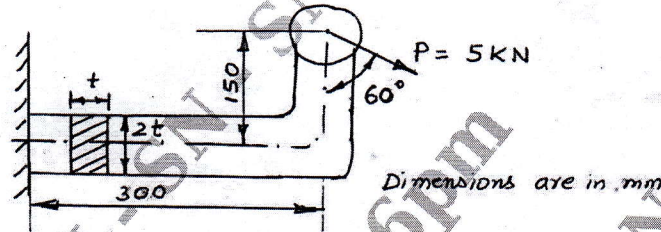

Fig. Q1 (c)
c. A bracket with a rectangular cross section is shown in Fig. Q1 (c). The depth of cross section is twice the width. The force P acting on the bracket at 60° to vertical is 5 kN. The material of the bracket is grey cast-iron FG200 and the factor of safety is 3.5. Determine the dimensions of the cross section of the bracket.